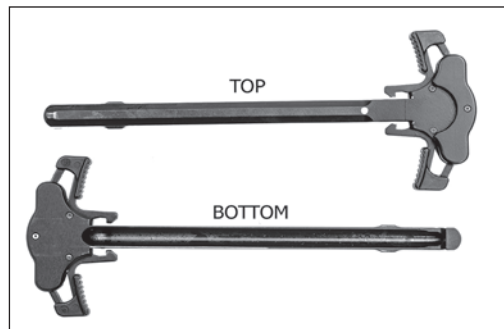

Fig. 55 – Lubrication of MR A4 Charging Handle
5. Apply a medium coat of lubricant to the interior and exterior surfaces of the charging handle (Fig. 55).